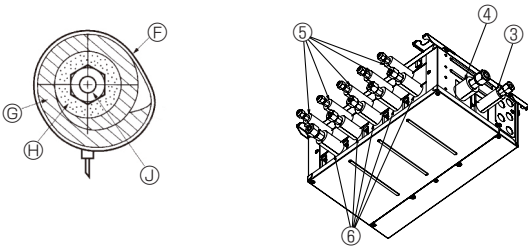
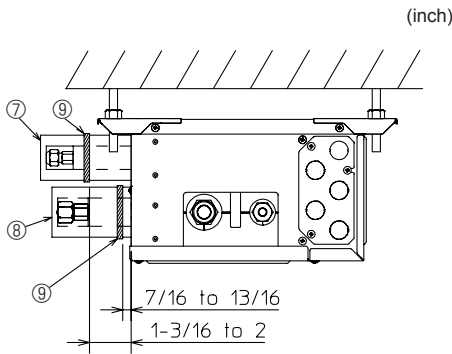

Fig. 7-4
Fig. 7-5
- Insulate the liquid and gas pipes of the branch box by attaching the heat-resistant polyethylene foam tightly around them. (Fig. 7-4)
- (5) Press the pipe covers ③ and ⑤ on the liquid piping against the unit and wrap to hold in place. (Fig. 7-4)
- (6) Press the pipe covers ④ and ⑥ on the gas piping against the unit and wrap to hold in place. (Fig. 7-4)
- (7) Apply the supplied bands ⑨ at a position 7/16-13/16 inch (10 - 20 mm) from each end of the pipe covers (③④⑤⑥).
- (8) If the indoor unit is not connected, fit the supplied pipe covers (with caps, ⑦ and ⑧) to the branch box refrigerant piping connections against the unit to prevent condensation dripping from the pipes. (Fig. 7-5)
- (9) Clamp the pipe covers (⑦⑧) in place with the supplied bands ⑨.
- ③ Band (3.1 Accessories No. ⑨)
- ④ Pipe covers (3.1 Accessories No. ③④⑤⑥)
- ⑦ Thermal insulation for refrigerant piping
- ⑧ Refrigerant piping
7.2. Handling of ports that are not connected to outdoor unit (Fig. 7-5)